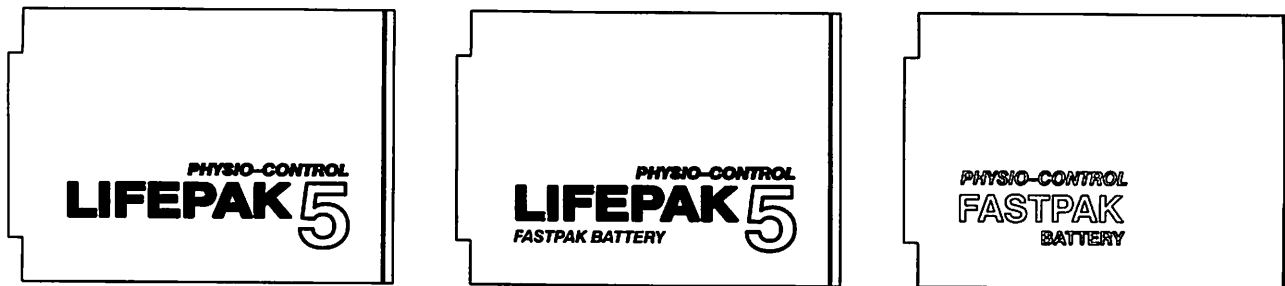

FIGURE 2-3. BATTERY PAKS
- C. Figure 2-3 shows the types of Battery Paks currently in use.